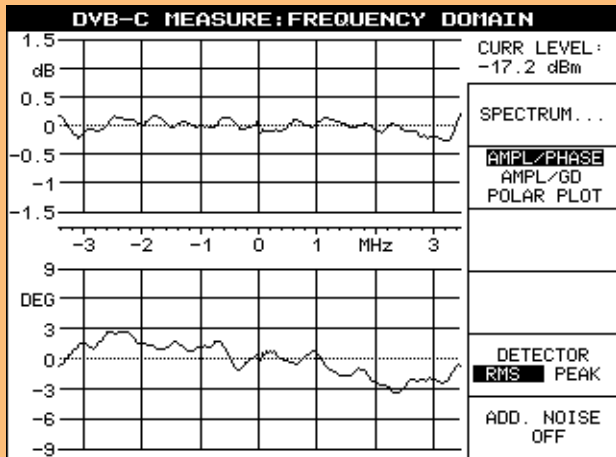

Fig. 7: Amplitude and phase frequency response
- ◆ Complex channel transmission function (Fig. 7)